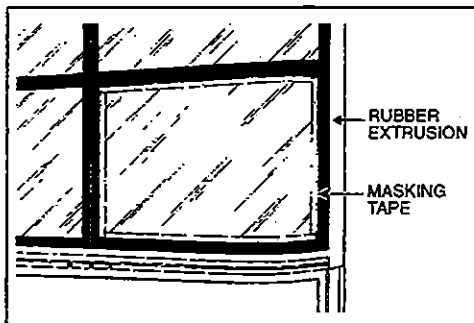

Figure 41
5. Mask the windshield following the contour of the rubber extrusion. See figure 41.